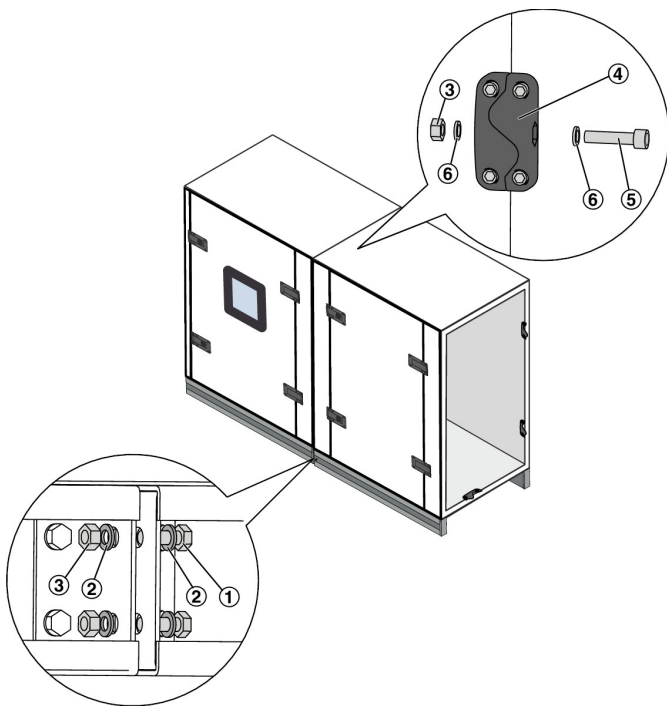

Fig. 16: Joining the base frames with screws/bolts
- ▶ If there are several AHU casing units, connect them together using casing unit connectors, ( Fig. 16 /4).